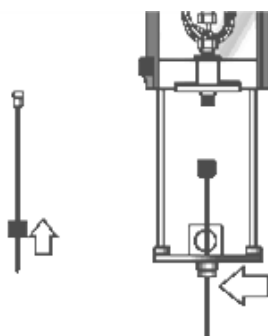

Fig. 66: Inserting the needle
6. Slip a replacement needle seal over the syringe end of the replacement needle (→ Fig. 66). Be careful to avoid that the sharp needle edges cut into the seal, resulting in particles that could clog the needle. Verify that the hole is open and no fuzzy (lint) seal particles are in the path.